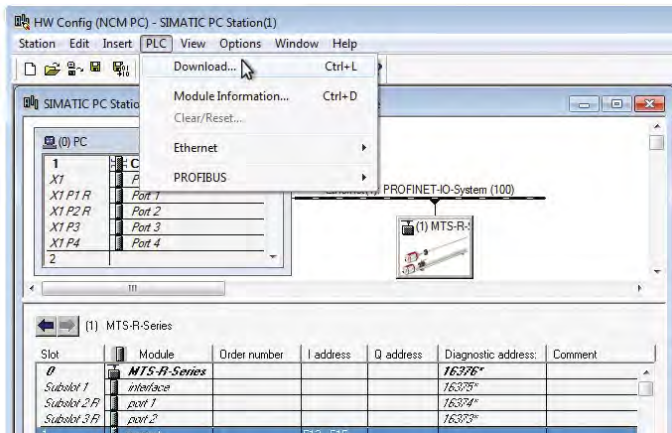

Fig. 71: Transfer settings to the control system (source: Siemens)
4. Transfer your settings to the controller as described below (Fig. 71):